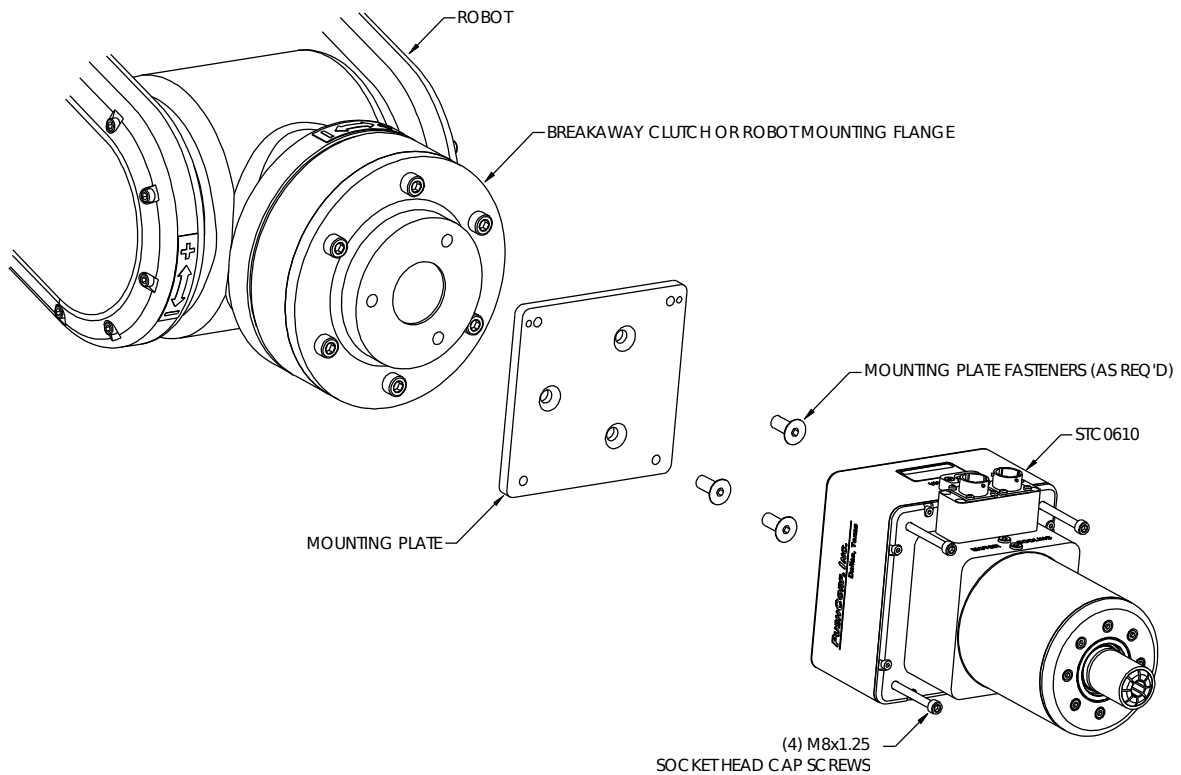

Figure 4. STC0610 Direct Mounting
To mount the 0610 Series, first attach the Intermediate Mounting Plate to the Robot Mounting Flange or to the Breakaway Clutch, per the manufacturer's specifications. Once the Mounting Plate is secured, place the 0610 Series against the Intermediate Mounting Plate and install (4) four, M8x1.25 Socket Head Cap Screws. (See Figure 4.) Tighten the fasteners to the torque specified in Section 4.0.